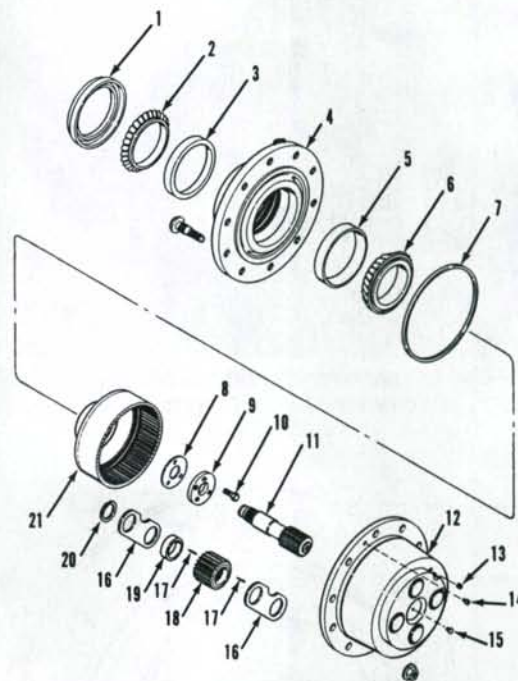

Fig. 6—Exploded view of wheel hub and planetary unit used on front drive axle.
**9. R&R AND OVERHAUL.** To remove the wheel hub and planetary, support axle housing and remove front wheel and tire assembly. Rotate wheel hub until drain plug (13—Fig. 6) is at bottom.
of 20 ft.-lbs. (27 N.m). Use a torque wrench and special tool CAS-1768 as shown in Fig. 7, to check rolling torque of hub. Tighten or loosen cap screws (10—Fig. 6) until rolling torque is 50-90 in.-lbs. (6-10 N.m). Then, using a depth micrometer through hole in retaining plate (9), measure distance from outer face of plate to end of pivot housing. See Fig. 8. Record this measurement. Remove retaining plate and measure thickness of the plate. Subtract this measurement from the first measurement. The difference will be the correct thickness of shim pack (8—Fig. 6) to be installed. Shims are available in thicknesses of 0.001, 0.002, 0.005, 0.010, 0.020 and 0.030 inch (0.0254, 0.0508, 0.127, 0.254, 0.508 and 0.762 mm). Remove sun gear (11), ring gear (21) and hub (4). Install new oil seal (1) in hub with lip facing away from bearing (2). Reinstall hub, ring gear, correct shim pack and retaining plate. Install cap screws (10) and tighten to a torque of 65-75 ft.-lbs. (88-102 N.m). Install sun gear (11) and new "O" ring (7). Align holes for socket head screws (14) and install planetary carrier (12). Install socket head screws (14) and tighten securely. Rotate hub until oil level arrow points downward. Remove plug (13) and fill planetary unit to level plug